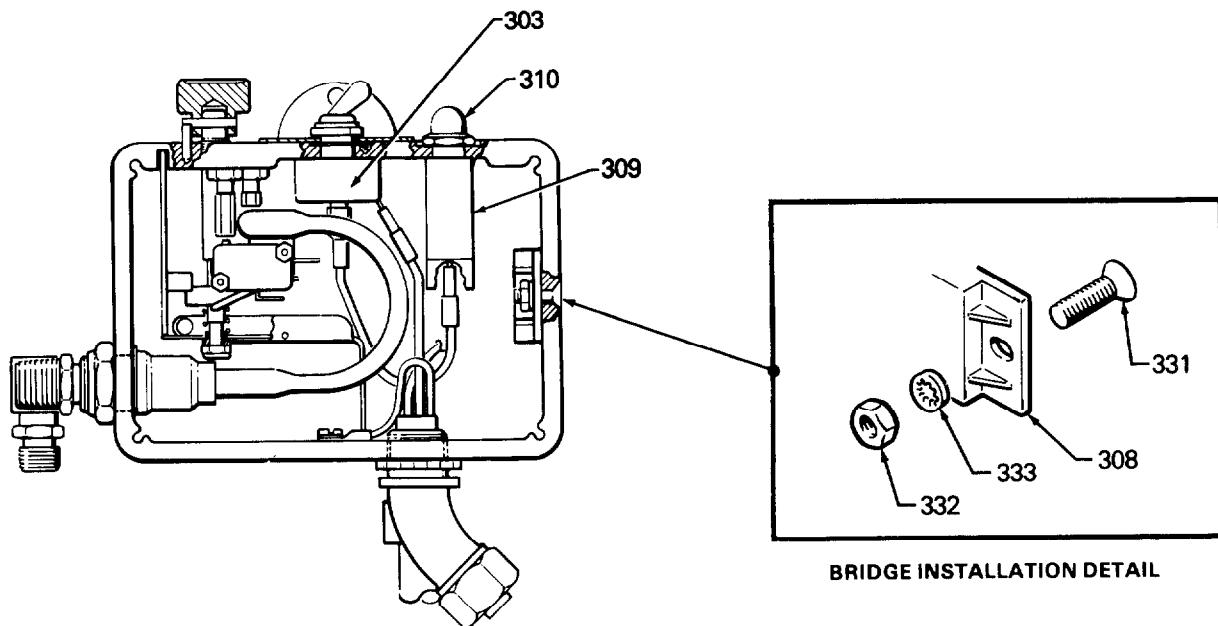

Fig 14
## BRIDGE RECTIFIER REPLACEMENT (Refer to Fig 14)
2. Disconnect all wires from the bridge (308) at the appropriate terminals.
3. Outside the pressure control box on the right side are two screws (331). Loosen, but don't remove the screw near the back of the control box. Then loosen and remove the front screw. Slide the bridge out.
4. Slide the new bridge (308) into the box being sure the lockwasher (333) on the rear screw (331) is IN FRONT of the bridge. Refer to the Detail in Fig 14.
5. Install the front screw, lockwasher and nut (332).
The lockwashers (333) must be in front of the bridge to avoid overheating which will result in bridge failure. Refer to the Detail in Fig 14.
## CIRCUIT BREAKER REPLACEMENT (See Fig 14)